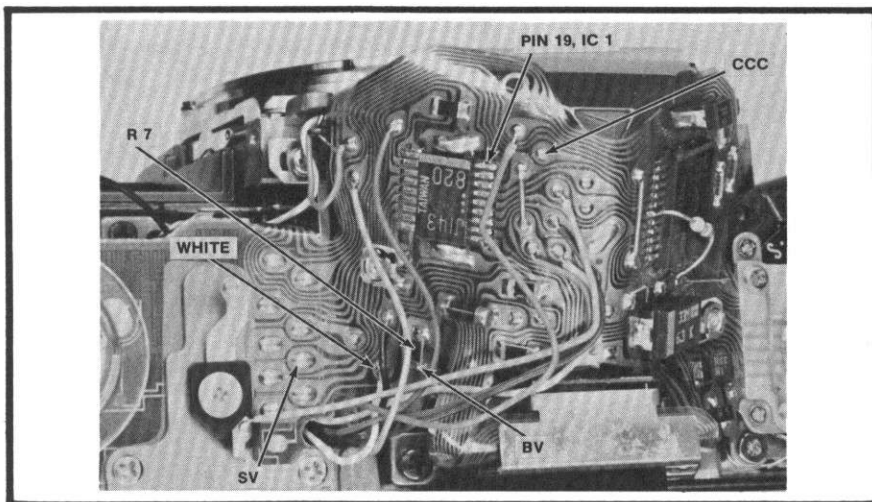

Figure 91
Check the BV signal at pin 4 of IC4 or at R7, Fig. 91. With SW1 closed, you should get a change in voltage as you change the light level striking the SPD. The BV voltage should go more positive as you decrease the light level. If there's no change, troubleshoot IC4.
Connect a 4.7K resistor between the CCC land, Fig. 91, and ground. The LED readout should change to f/4. If it does, IC2 is o.k.
- Cause: check the maximum-aperture resistor. Disconnect the white wire, Fig. 91 from the flex and measure the resistance between the white wire and ground. As you push in the maximum-aperture correction pin, the resistance should go from around 4K to around 11K. If the maximum-aperture resistor checks o.k., measure the voltage at pin 2 of IC4. The voltage should go from around 1.8V to around 1.4V as you push in the maximum-aperture correction pin. If the voltage remains at 1.8V, replace IC4.
5. Check the AVO signal at pin 2. You should measure around 1.8V without a lens on the camera. When you push in the maximum-aperture correction pin, you should see the voltage decrease—around 1.5V with the maximum-aperture correction pin pushed completely in. No change—check the maximum-aperture resistor VR102 by measuring the resistance between the white wire, Fig. 91, and ground. The resistance should go from around 4K to around 11K as you push in the maximum-aperture correction pin. If the maximum-aperture resistor checks properly, but you don't get the voltage change at pin 2, replace IC4.